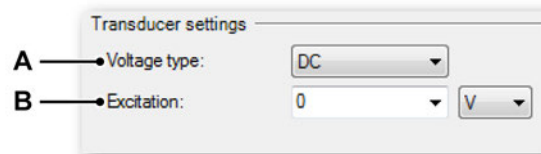

Figure 2.25: Transducer settings/Voltage sensor
A voltage type sensor in Perception is a sensor that outputs a voltage (V). Figure 2.25 shows the settings for the voltage sensor in Perception.